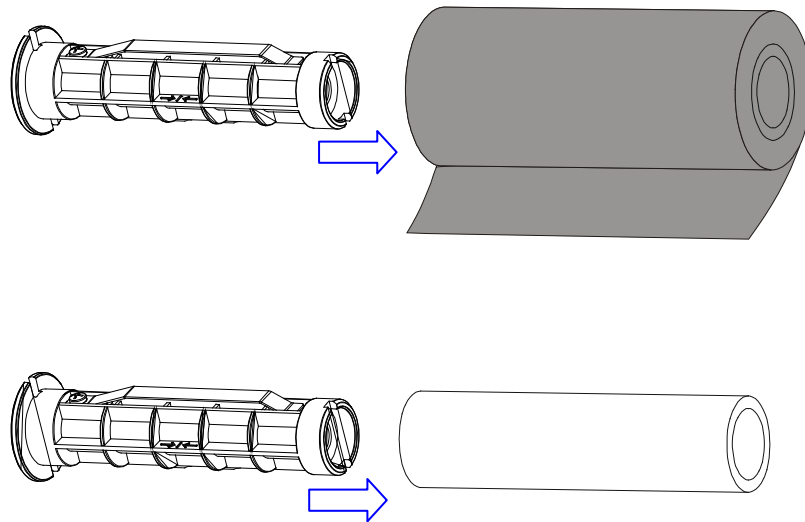

Figure 5-3
4. Slide the ribbon onto one of the Ribbon Spindles and place the core onto the other spindle (see Figure 5-3).